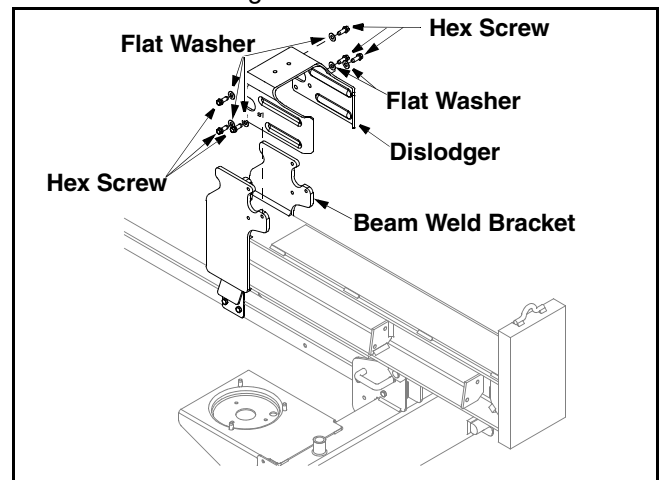

Figure 3
- Disconnect the dislodger from the beam weld bracket by removing the six hex screws and flat washers. See Figure 3.